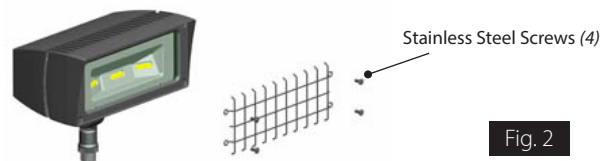

Fig. 2
Wire Guard and Poly Shield mount with (4) #8-32 Stainless Steel Screws. Screws are provided with accessory. See Figure 2 for Guard. See Figure 3 for Shield.